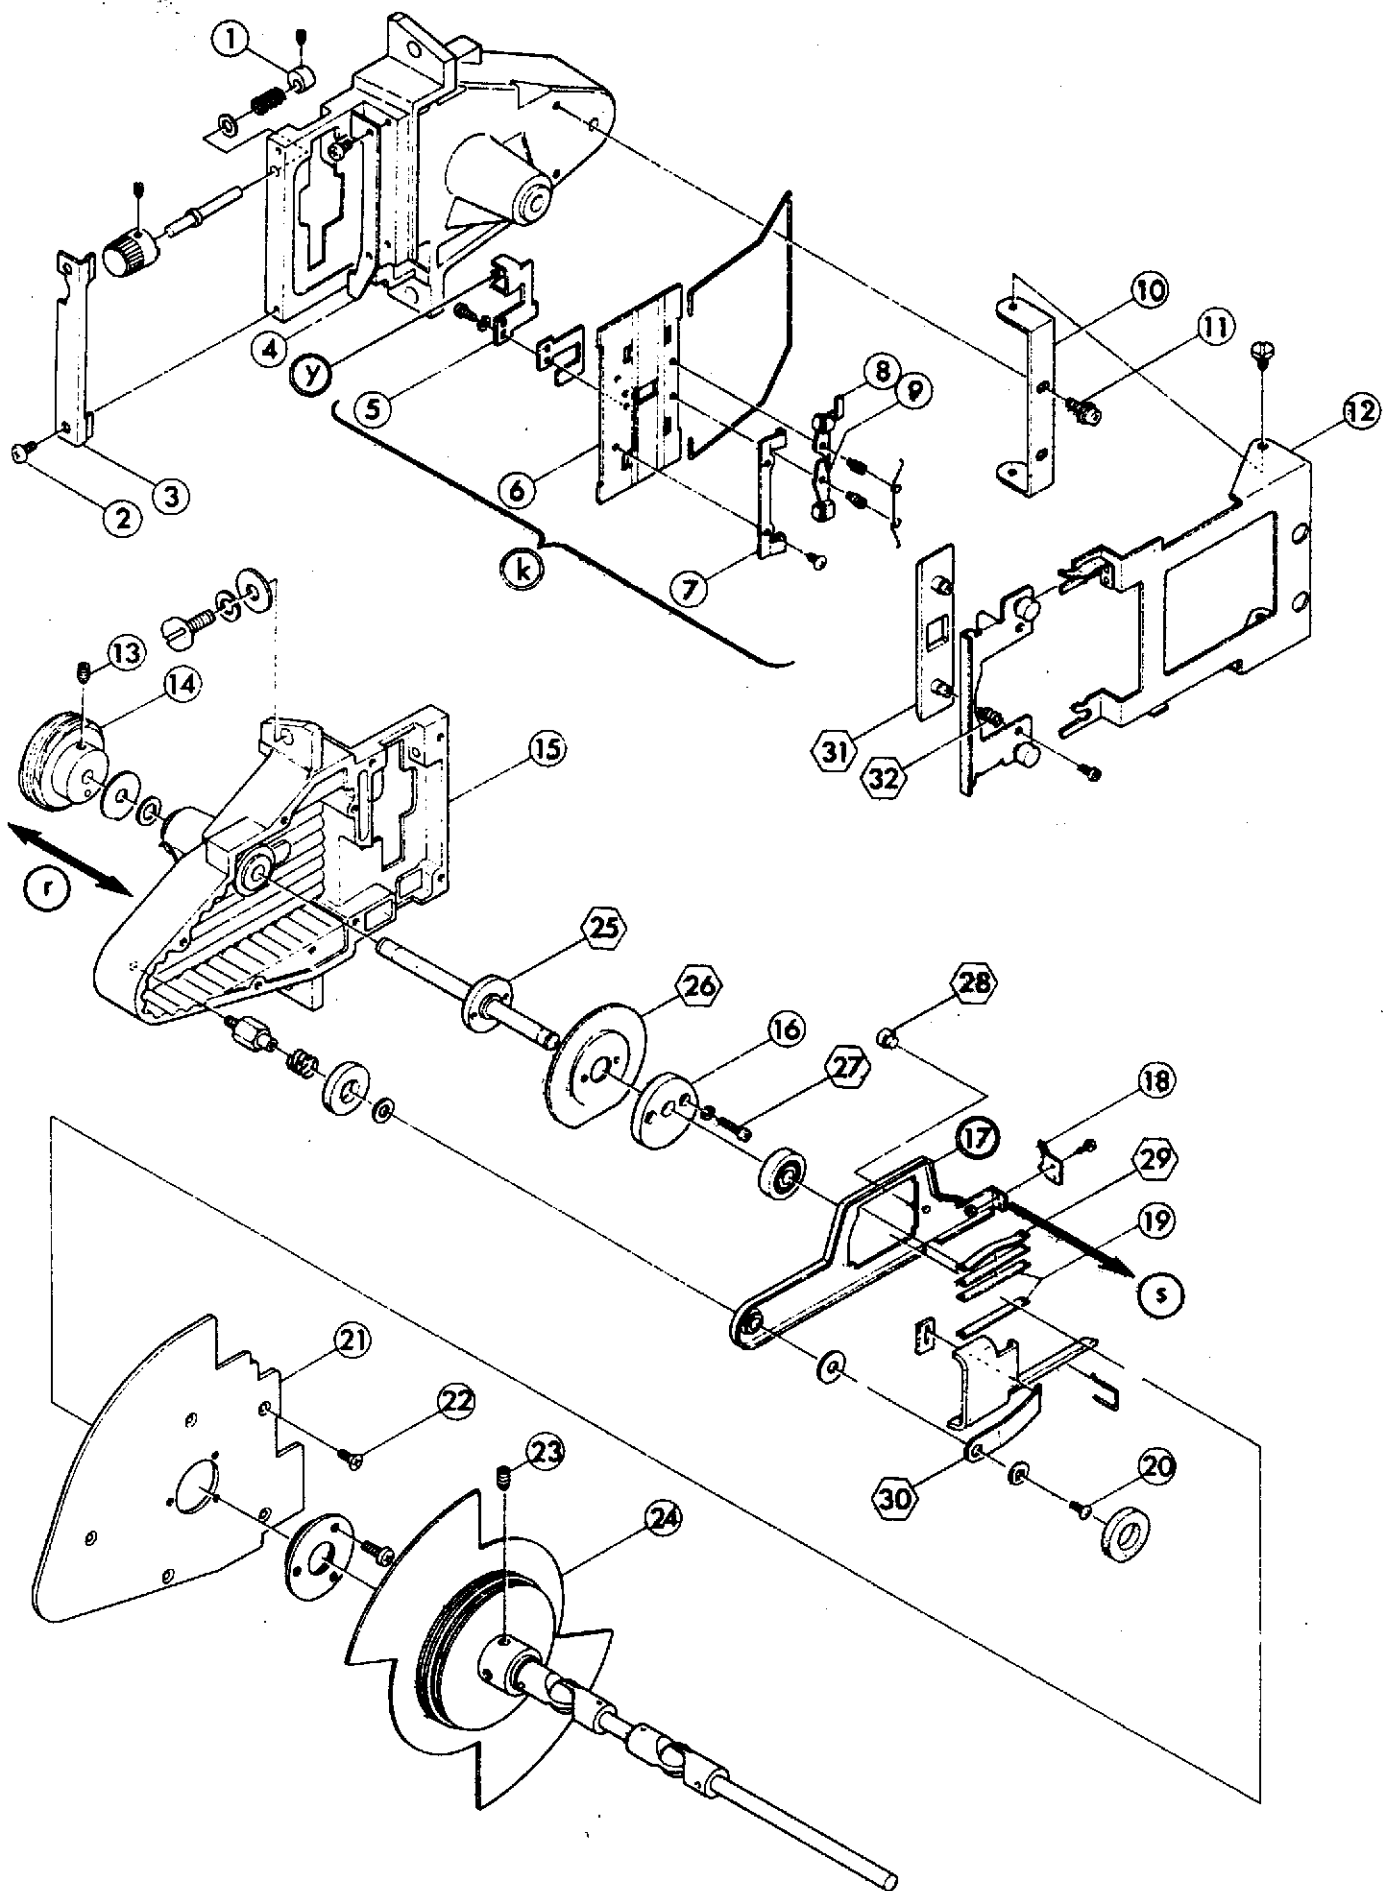

Fig. 12
- (1) Remove (k) in Fig. 12 by detaching Fig. 12-2x2,3.
- (3) Fig. 12-1 should not only closely contact with (y) in Fig. 12 but also smoothly move.